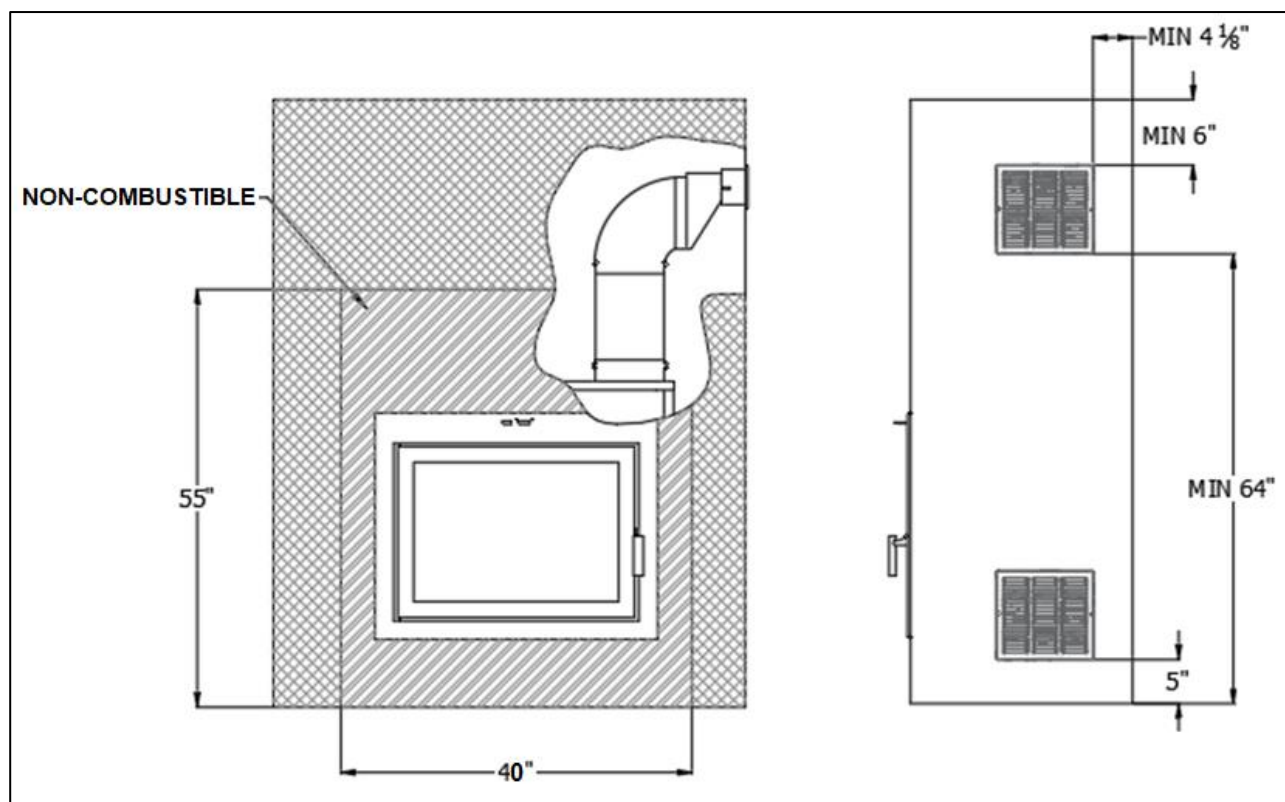

Figure 3-37: Front and Side Chase for Clean Face Dual Louver Configuration
1. Determine the two locations of the air intakes on the chase and cut a rectangular opening 10.5" (W) X 9.5" (H). Note that a distance of 5" is required from the floor.
2. Determine the two locations of the air outtakes on the chase and cut a rectangular opening 10.5" (W) X 9.5" (H). Note that a minimum distance of 64" is required from the floor and a minimum of 6" is required from the ceiling (Figure 3-37). Please note that the air outtake grilles can be installed in the same room or in different rooms from each other. If the grilles are installed at different heights, more heat will be distributed to the highest one.
Refer to Figure 3-37 for clearances to combustibles.
A portion of the front of the chase must be constructed out non-combustible material. Refer to Figure 3-37, 3-38, and 3-39 for dimensions. Note the chase must be properly fastened onto the framing structure.
For the clean face surround option, two intake openings must be constructed onto the chase, as well as two outtake openings or one if installing the linear single louver front (Section 3.5). Refer to Figures 3-37 and 3-39 for minimum clearances.